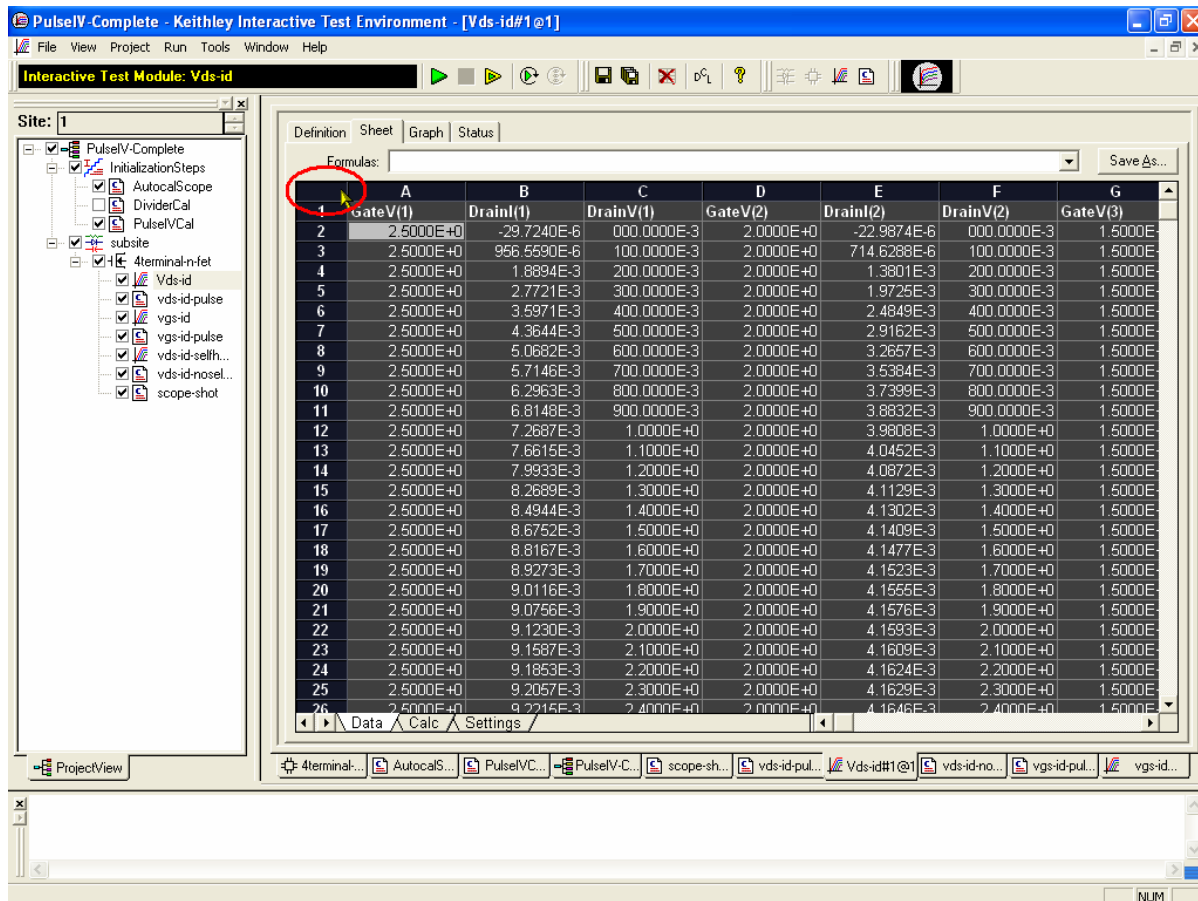

Figure 18. Highlighting all entries in a worksheet. Screenshot shows all data highlighted after clicking circled area.
4. Highlight all of the data in the desired worksheet by clicking the upper-left "cell" as shown in Figure 18.